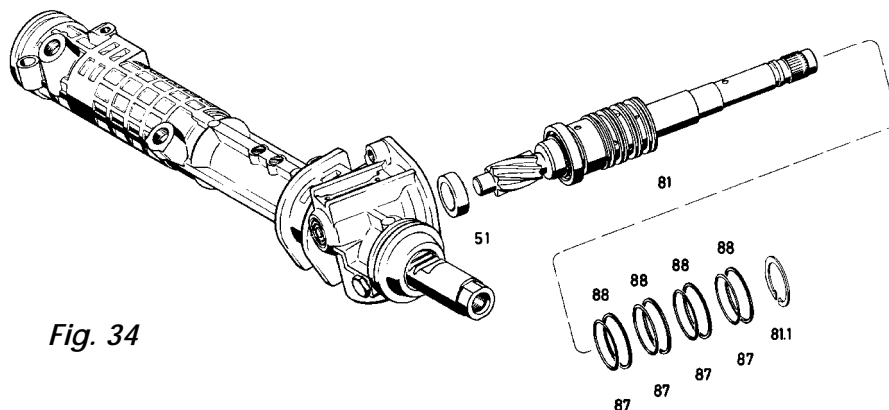

Fig. 34
8.1 Pre-assembling the rotary valve (81)
Mount the O-rings (87) and the sealing rings (88) to the rotary valve (81) (*Fig. 34*).